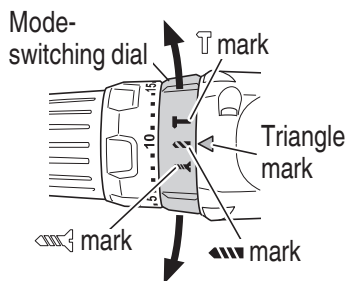

Fig. 14
7. Confirm the mode-switching dial and clutch dial position (see **Figs. 14, 15 and 16**)
<DV12DD> (See **Figs. 14 and 15**)